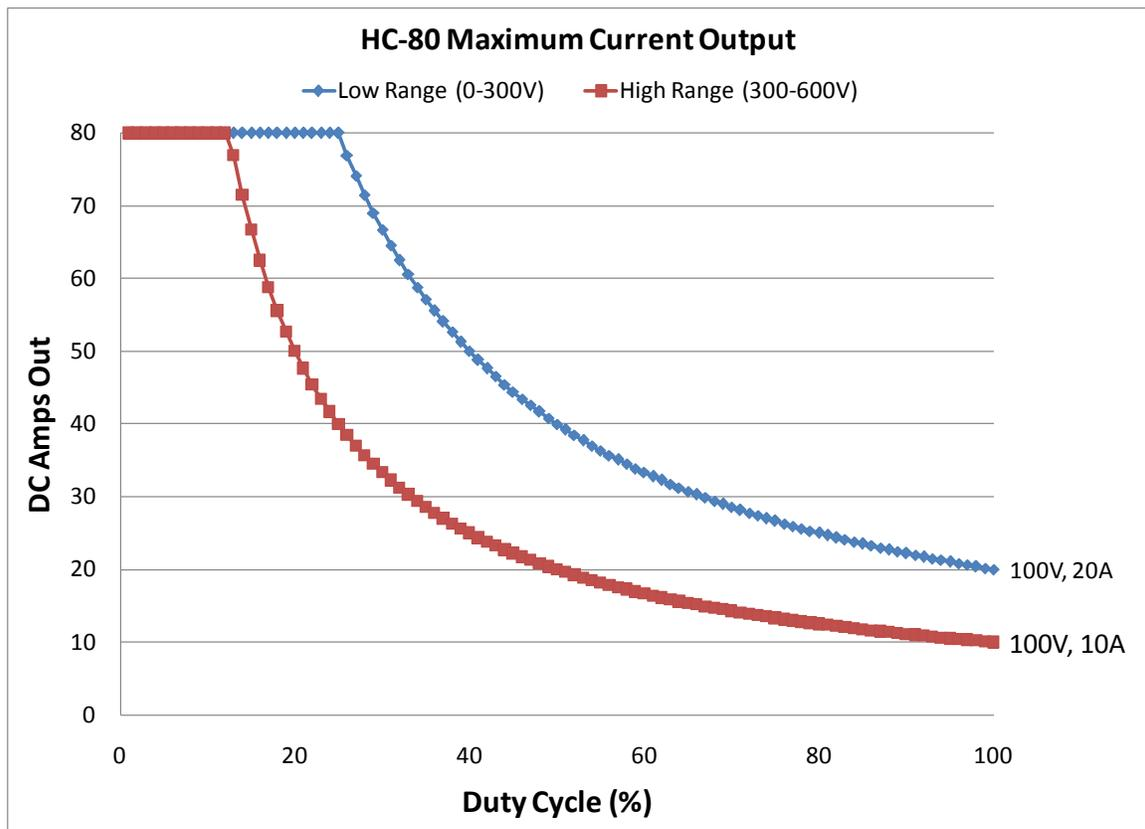

Figure 5. Maximum current output for the HC-80 associated within each voltage range. Refer to Appendix A for maximum amperage chart.
**Current Limitations/Overload:** The HC-80 can provide enough output power (24,000 Peak Watts) to effectively electrofish over a wide range of water conductivities. However, in order to deliver such high peak power outputs, the duty cycle (% of the pulse that is energized) must be reduced as the power requirement is increased. Otherwise, the power required would exceed the capabilities of most generators. For example, if the user desired to operate the HC-80 at 600 Volts, 40 Amps, and a 100% Duty Cycle, that would equate to a continuous, average power output of 24,000 Watts; far more than could be produced by even a robust 7 KW generator. Therefore, the HC-80 places a limit on the maximum output current that can be provided, and that limit varies exponentially as a function of the duty cycle of the output pulse selected by the user (Figure 5; Appendix A).